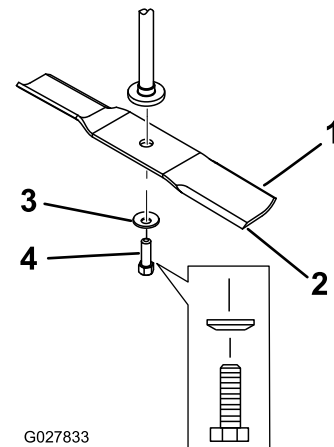

Figure 49
Hold the blade end using a rag or thickly-padded glove. Remove the blade bolt, curved washer, and blade from the spindle shaft (Figure 49).
1. Install the blade onto the spindle shaft (Figure 49).
2. Install the curved washer (cupped side toward the blade) and the blade bolt (Figure 49).